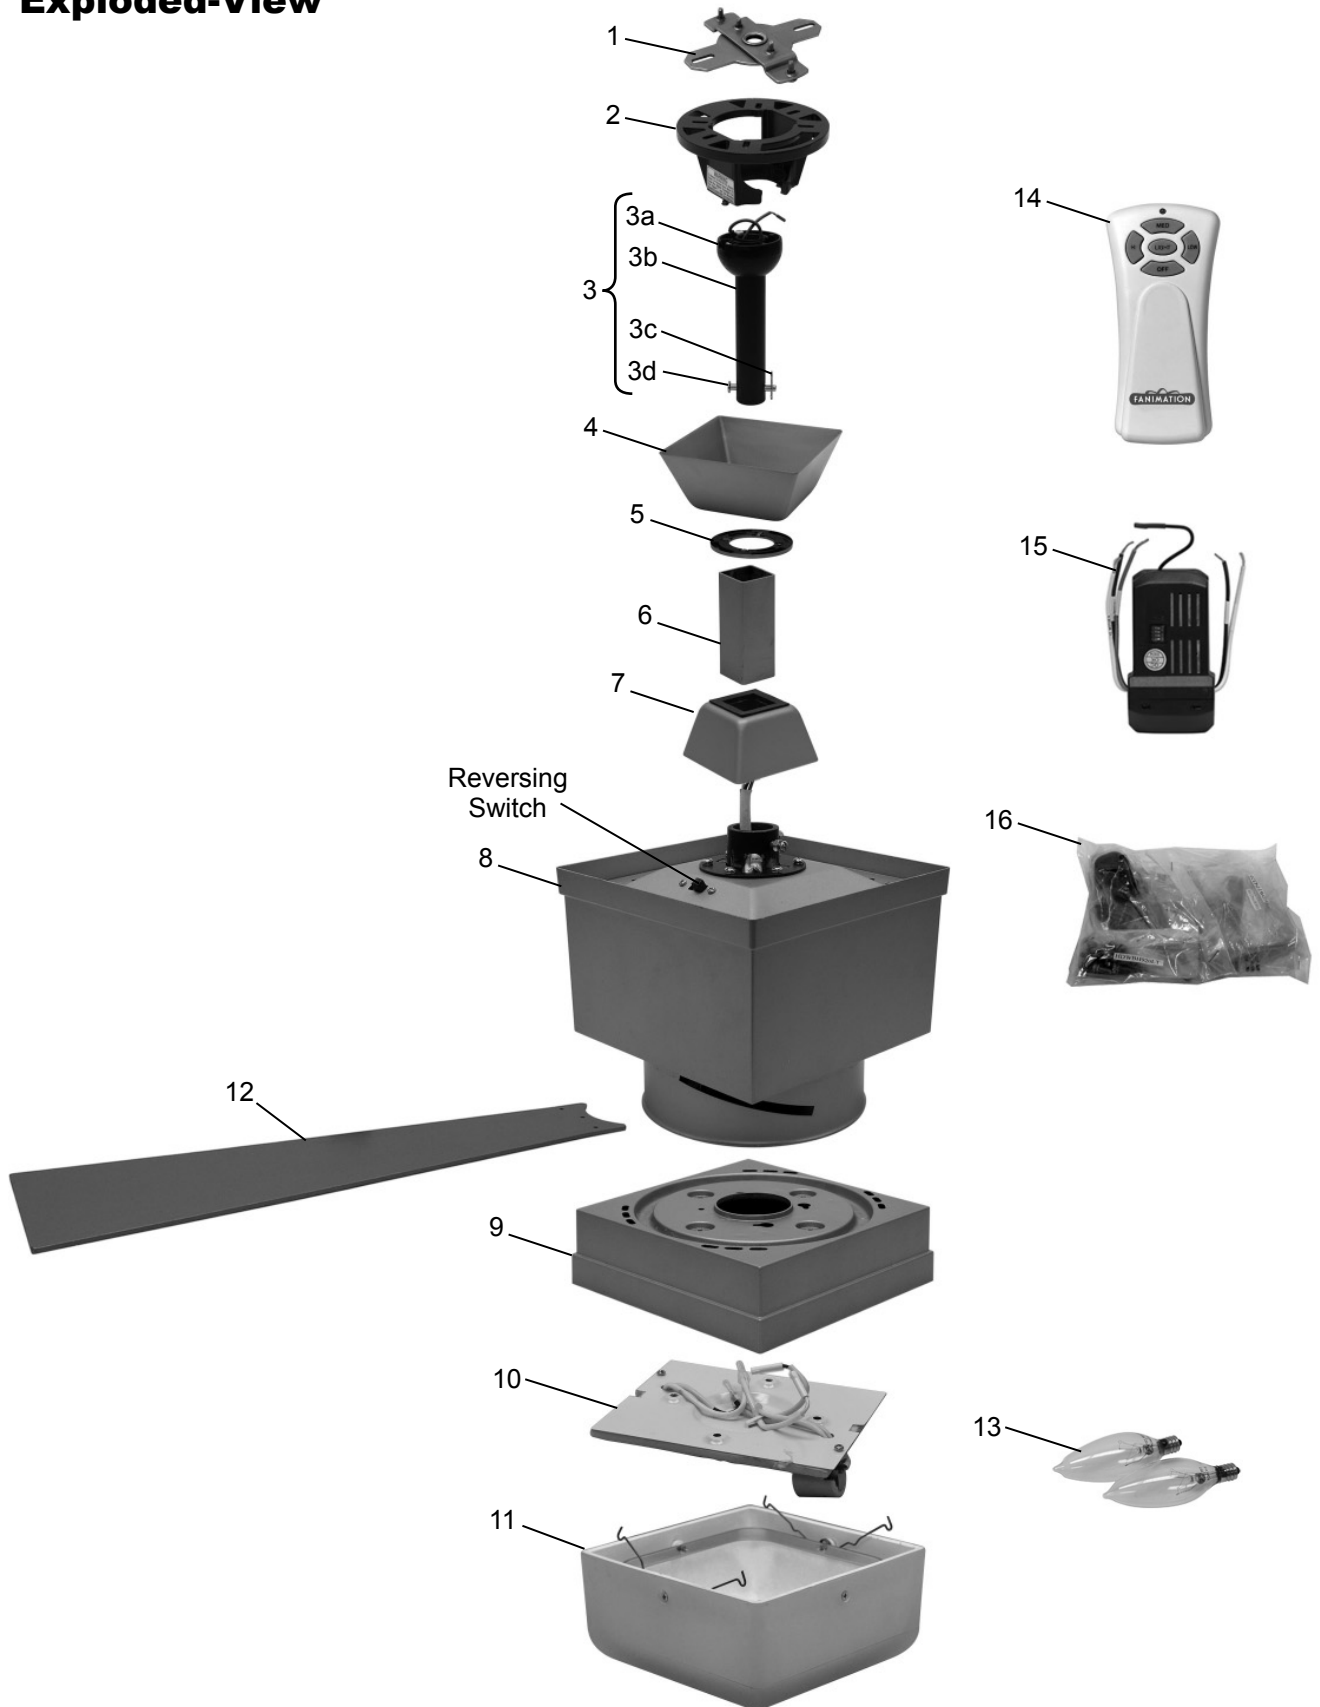

Figure 1
1. After hanging the fan, slide the Square Motor Coupling Cover and Square Sleeve upward to install the Downrod Cover Clip. (Figure 1)
1. Attach blades to the motor hub using the provided washer head screws and fiber washers. Make sure the screws securing the blades to the motor hub are tight and are properly seated. Do not overtighten. (Figures 1 & 2)
1. Loosen three screws and remove one screw from support flange. (Figure 1).
1. Operating & Using Remote Transmitter (Figure 1): Install 9 volt battery (If not using for long periods of time, remove battery to prevent damage to transmitter). Store the transmitter away from excess heat or humidity.